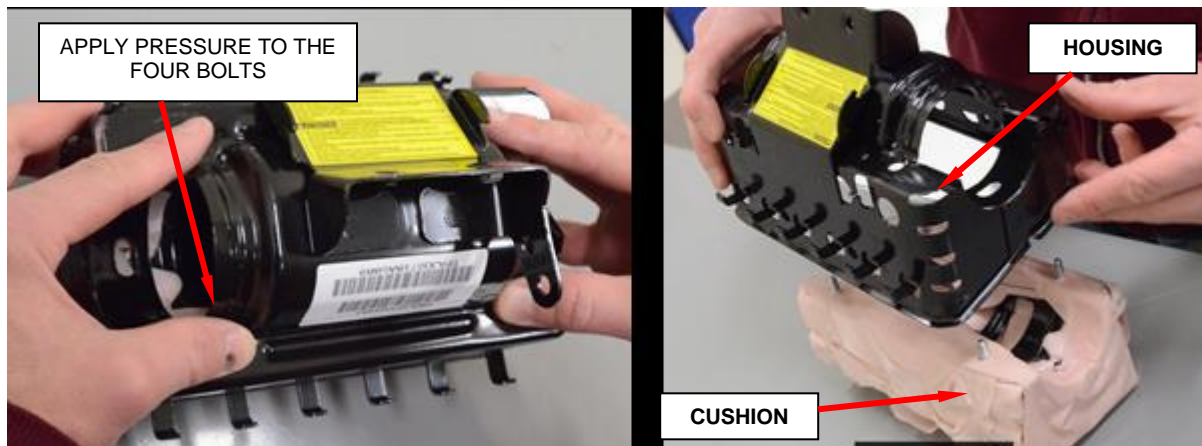

Figure 154 – Remove Airbag Cushion from Housing
h. Remove airbag cushion from housing by applying pressure to the bolts, set cushion aside (Figure 154).